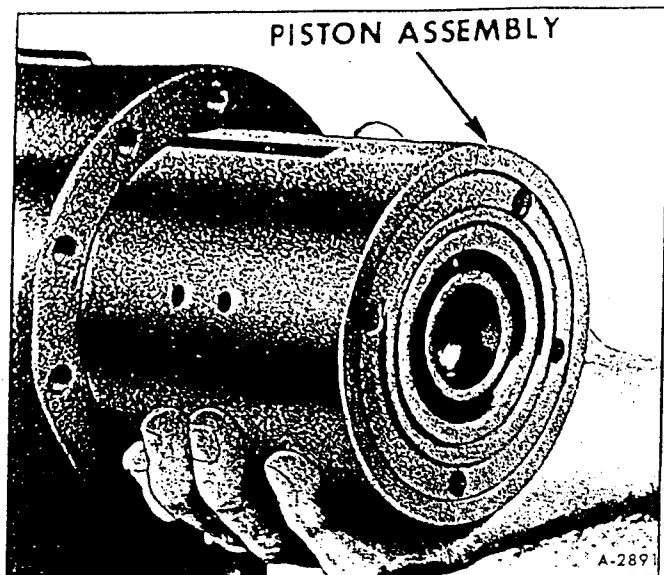

Figure 20 – Removing Piston from Gear Housing
15. Pull piston assembly from gear housing (fig. 20).
Drag link (fig. 20) is a three-piece type comprised of a tube and two socket end assemblies. Each drag link end is threaded into the tube and locked with a clamp bolt and nut. Right and left threads are provided to facilitate adjustments.